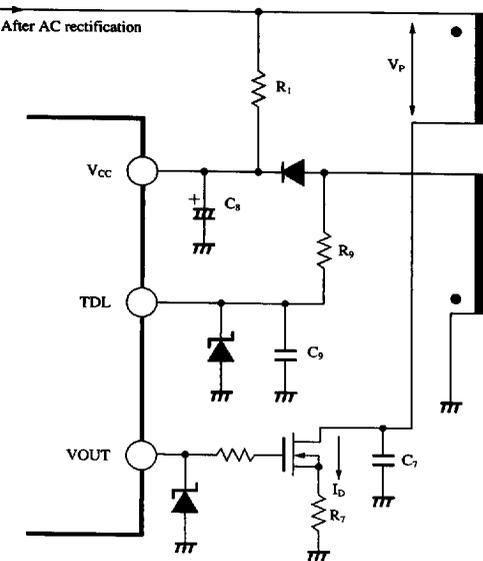

Fig.5
For the AN8026, the artificial resonance operation can be obtained by making connection as shown in Fig.5. The C7 is a resonance capacitor and the R9 and C9 constitute the delay circuit for regulating turning-on of the power MOS FET. When the power MOS FET is turned off, the voltage which generates in the drive winding is inputted to the TDL (Time Delay) terminal (Pin①) through the R9 and C9. While the "H" signal (threshold voltage : 0.7V or more) is inputted, the power MOS FET remains off. Also, the TDL terminal has the H/L-side clamp capability. For the upper limit, clamping is done at 2.8V (typ.) (sink current : -3 mA). For the lower limit, clamping is done at approx. 0V (typ.) (source current : 3mA). The off-time of the power MOS FET depends on the shorter value among the following times :